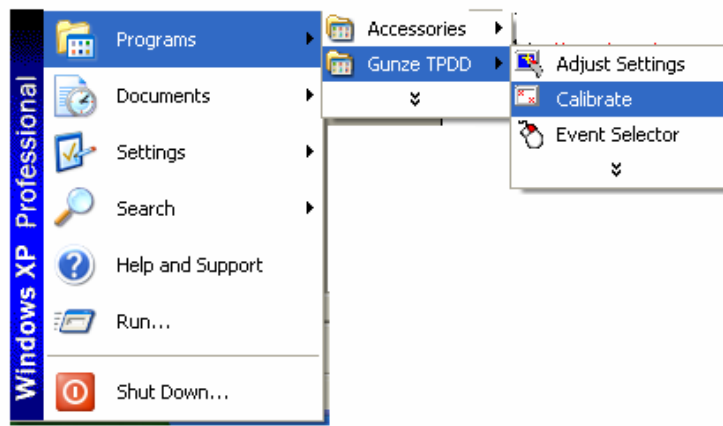

Figure 5
15. From the MS Windows Tool Bar Select "Start". Select "Programs" and select "Gunze TPDD" and select "Calibrate". See Figure 5.